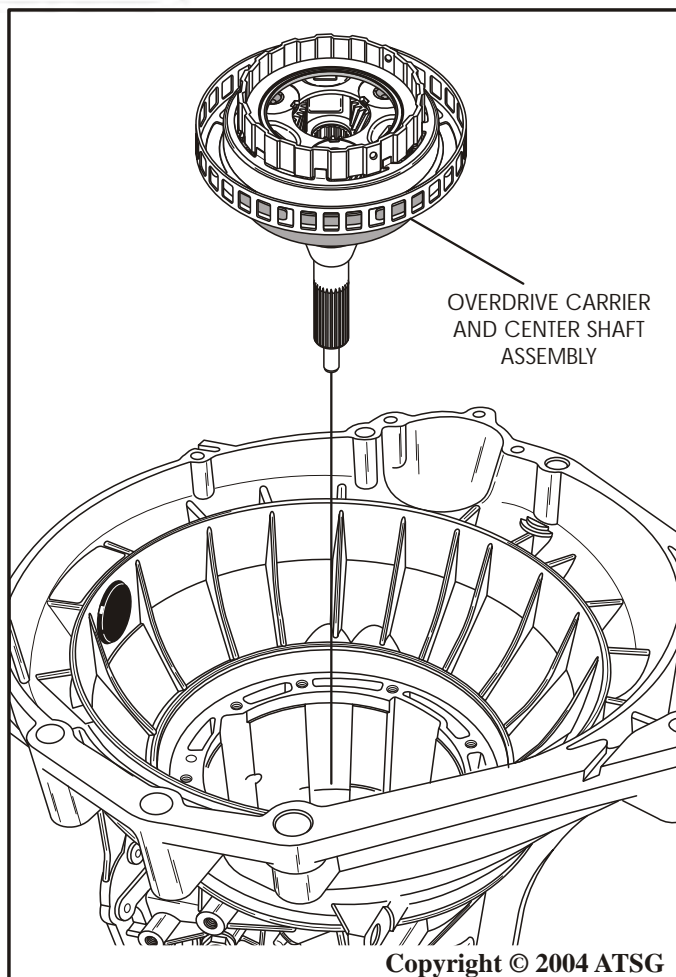

Figure 40
34. Remove the overdrive carrier and center shaft assembly, as shown in Figure 40.